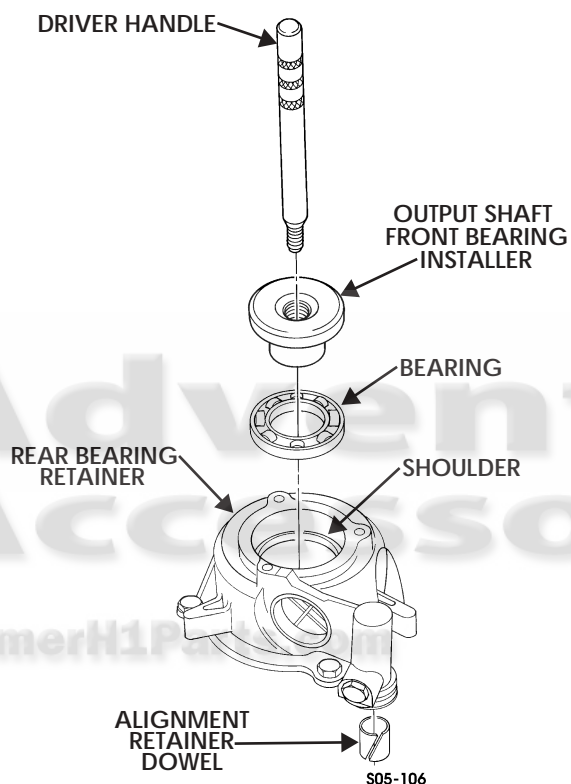

Figure 5-159: Rear Bearing
1. Replace bearing if worn or damaged (Figure 5-159).